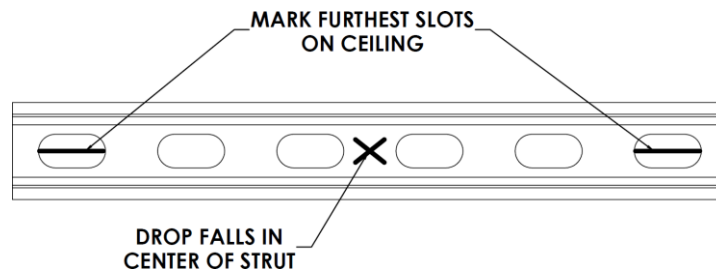

Figure 250: *Mark the End Slots of the Strut on the Concrete Slab*
6. Using a marker, mark the end slots of the strut on the concrete slab (Figure 250).